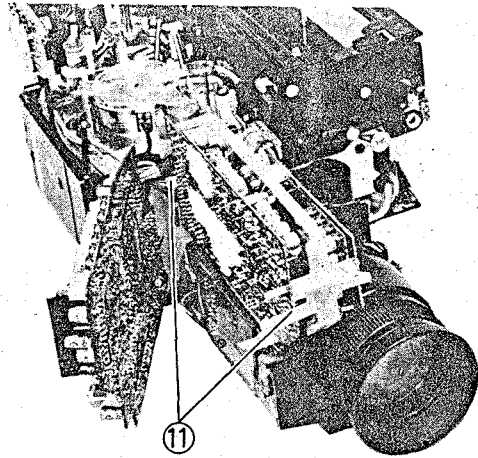

Fig. 2-27 Deflection Circuit Board Removal
11. Release two (2) tabs and remove the deflection circuit board. (See Fig. 2-27)